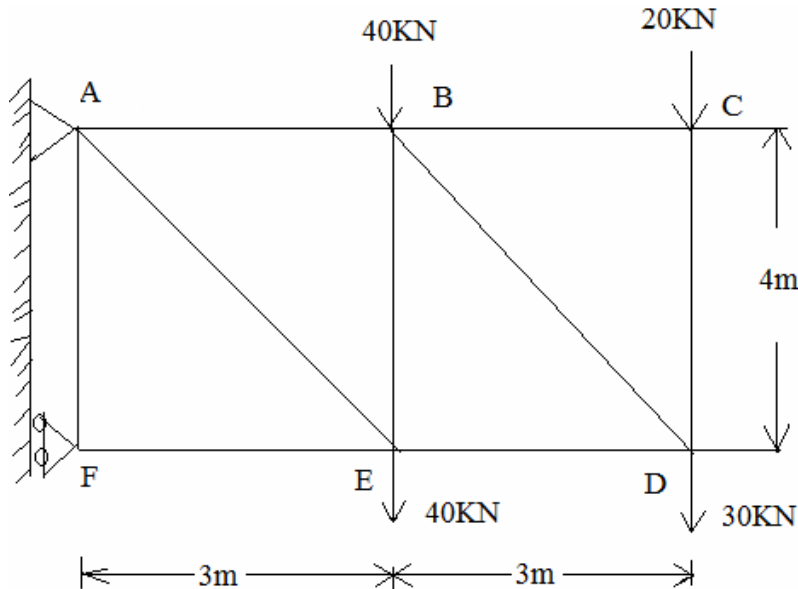

Fig.4
5. Find the forces in the members of the truss shown in Fig.4, using Method of Joints.